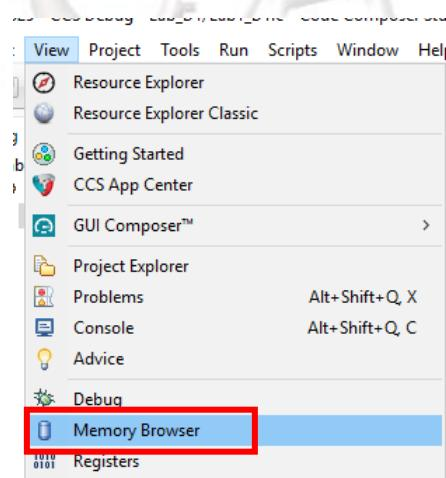

Figure 27. View Menu
Step 1. To open the Memory Browser, select “View->Memory Browser” (Figure 27) from the menu bar.